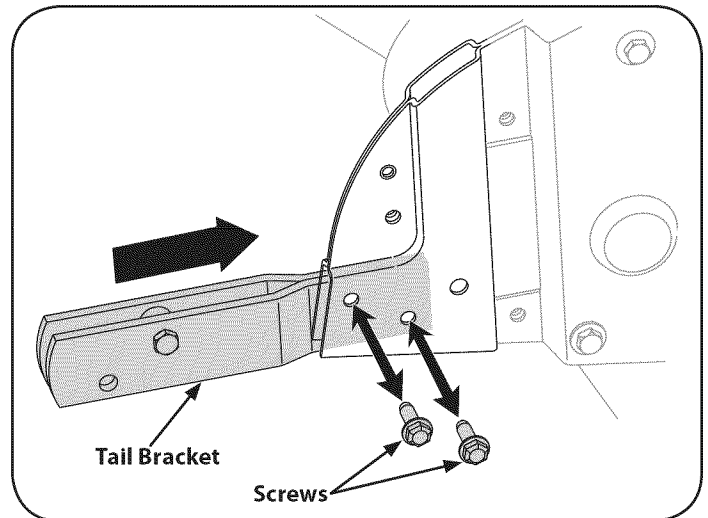

Figure 6
2. Remove the two screws from the tail bracket. See Figure 6.
3. Insert the depth gage bracket into the frame and reinstall the two screws removed earlier. Tighten the hex bolts securely. See Figure 6.